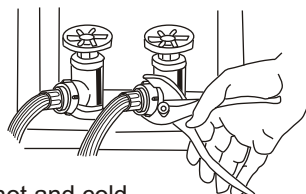

Figure 1
1. Respectively attach the water inlet hoses to the hot water faucet and the cold water faucet. Using pliers, tighten the coupling. (As figure 1)